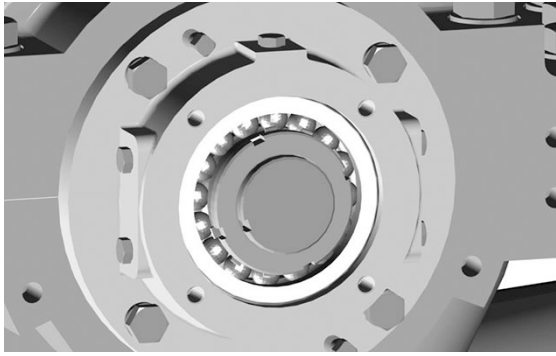

Figure 42: Locknut and lockwasher installation on outboard (opposite of coupling) side
13. Install the locknut and lockwasher on the outboard end of the shaft. Make certain that the locknut is secure and bend over the tabs on the lockwasher. (see Figure 42)